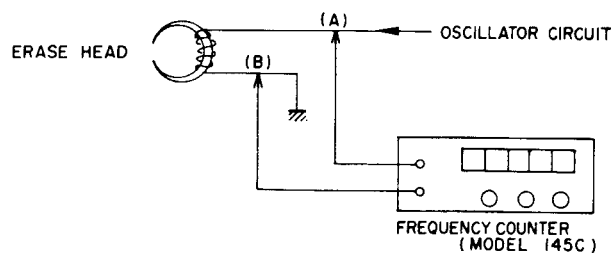

Fig. 7
1. ADJUSTMENT OF RECORDING BIAS FREQUENCY (See Fig. 7)